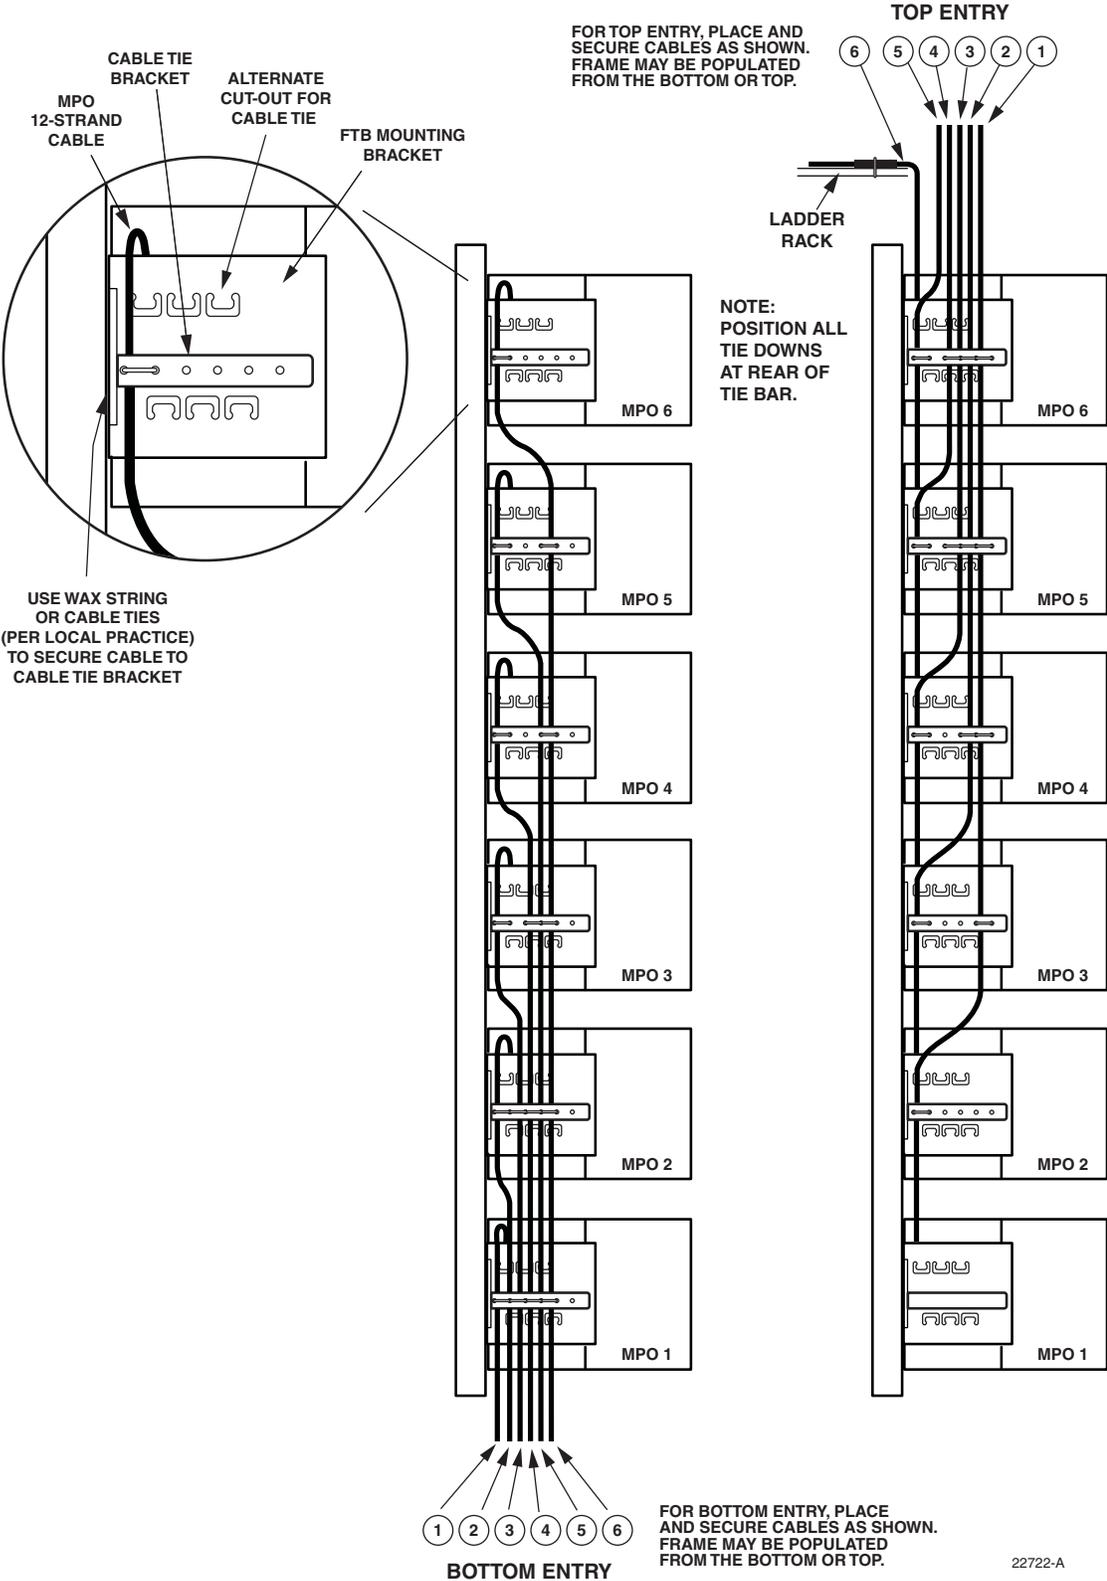

Figure 12. Routing MPO 12-Strand Cables on NGF Rack (Side View)
2. Route the MPO cable from above or below the rack as shown in Figure 12.